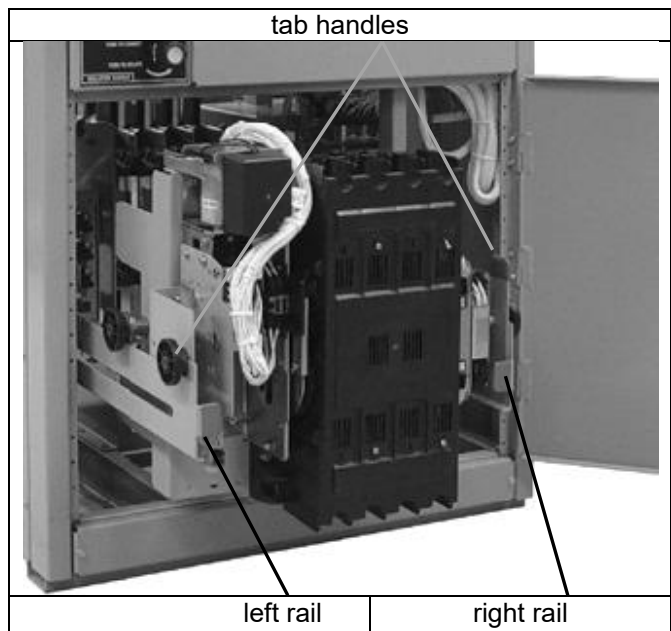

Figure 18 .Transfer switch isolated and pulled out for inspection.
- Open the lower enclosure door. Pull out both left and right side rails then use the two tab handles to roll out the transfer switch. It can be safely inspected in this position. The transfer switch can also be removed for easier maintenance operations. See Figure 18.